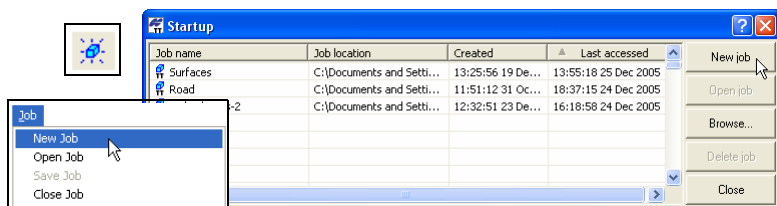

Figure 2-2. Ways to Create a New Job
- To create a new job, click one of the following (Figure 2-2):